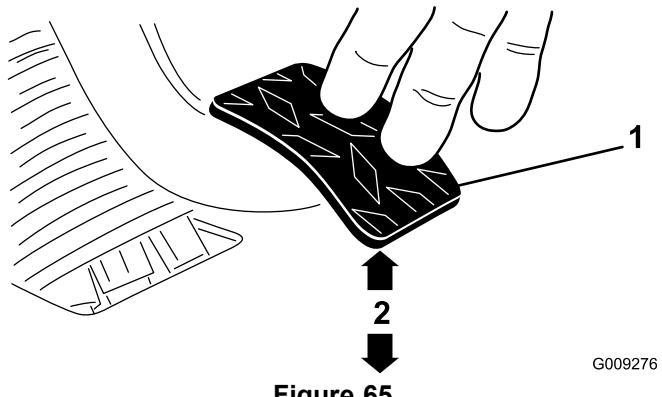

Figure 65
3. Adjust the jam nuts or ball joint until the back, rear edge of the clutch pedal is  $3.75 \pm 0.12$  inch ( $9.5 \pm 0.3$  cm) from the top of the floor plate diamond pattern, when an 4 lb (18 N) force is applied to the pedal (Figure 65).